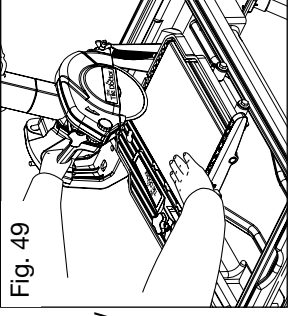

Fig. 49
3. Align the tile under the saw blade by moving the table to the desired position (Fig. 49).